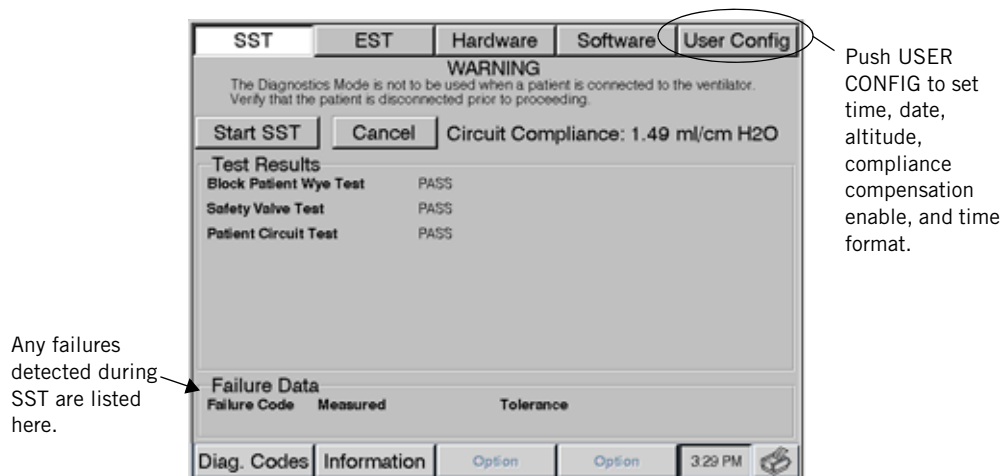

Figure 8-38: SST Results
7. Push USER CONFIG to check time, time format, date and altitude and set compliance compensation as required (Figure 8-38).
9. During SST, as each test is performed, the ventilator displays test results (Figure 8-38). Do not proceed until the ventilator completes SST without failures.